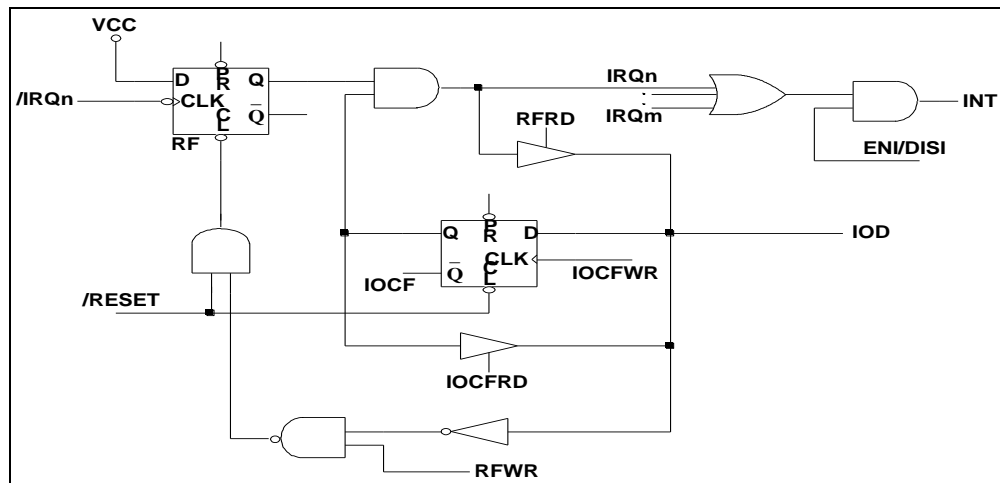

Figure 6-10 Interrupt Input Circuit
The flag (except ICIF bit) in the Interrupt Status Register (RF) is set regardless of the status of its mask bit or the execution of ENI. Note that the outcome of RF will be the logic AND of RF and IOCF (refer to Figure 6-10). The RETI instruction ends the interrupt routine and enables the global interrupt (the execution of ENI).